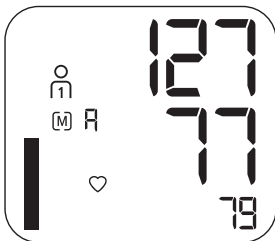

Fig. 1
2. The unit will first display the average of the last three measurements, Fig 1.